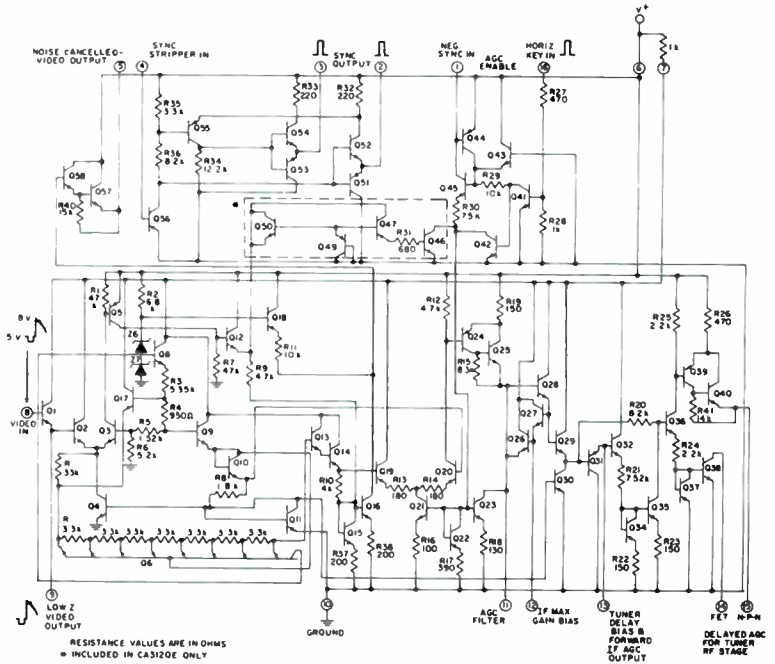

Fig. 3 – Schematic diagram of the CA3120E and CA3142E.
**Video Chain and Impulse Noise Inverter** — The input video signal applied at Terminal 8 is white "positive" with a required amplitude in the range of 2 to 4 volts. The DC level of the sync peaks, AGC threshold voltage ( $V_{TH}$ ) is approximately 5 volts. The level is maintained at 5 volts by the AGC loop in the circuit, comprised of the CA3120E or CA3142E and the TV receiver RF and IF amplifiers. A low source impedance video signal is available from the emitter of Q1 (Terminal 9 in Fig. 3). The external resistor ( $R_{X1}$  in Fig. 9) reduces the dissipation of Q1. The emitter-follower output of Q1 is directly coupled to a differential comparator stage (Q2, Q3). Unless a negative-going pulse is present, Q2 functions as an emitter follower and also cuts off transistors Q3, Q5, and Q12.